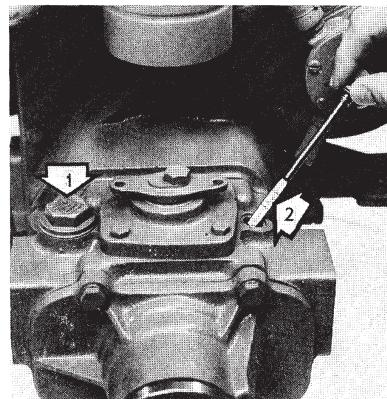

Fig. 15. Checking reverse gear oil level
The MS reverse gear has a separate oil compartment. Check the oil level daily before starting for the first time with the help of the dipstick which is located on the starboard side of the reverse gear. The oil level should be between the max.-min. marks on the dipstick, which does not need to be screwed down when measuring the oil level. When necessary, top up with new oil (see Fig. 15). Concerning the oil quality and viscosity, see point 5.
**Change the lubricating oil in the reverse gear after every 50 hours running** or at least once each season. The oil is drained through the reverse gear drain hole or is sucked up with the help of an oil scavenging pump through the hole for the oil dipstick. When adding oil to the reverse gear, fill up to the upper mark on the oil dipstick, see Fig. 15.